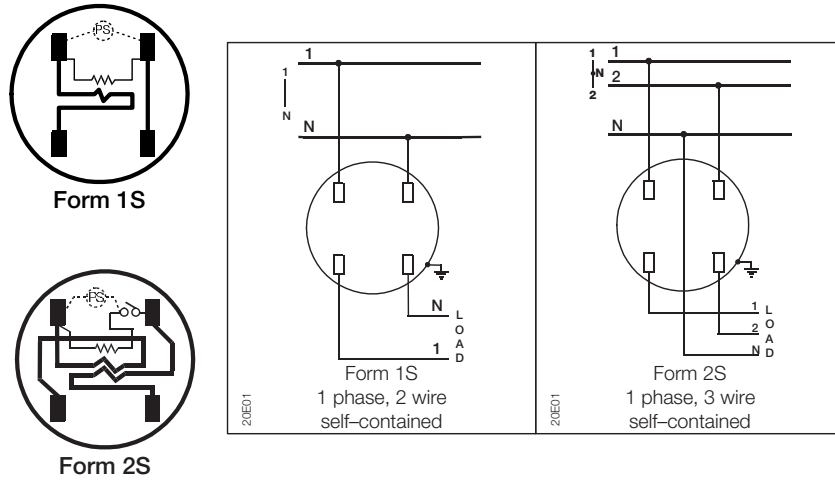
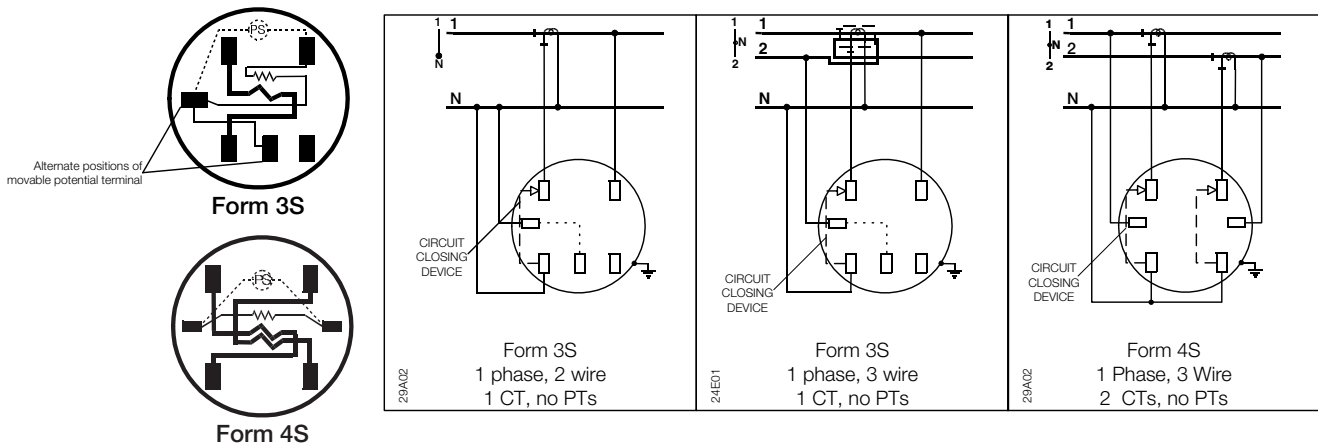

Figure 1. Self-contained meters and socket wiring (front view)
Figure 2. Transformer-rated meters and socket wiring (front view)
- 2 Check the socket and verify that the wiring is correct. See Figure 1 for self-contained meters and Figure 2 for transformer-rated meters.